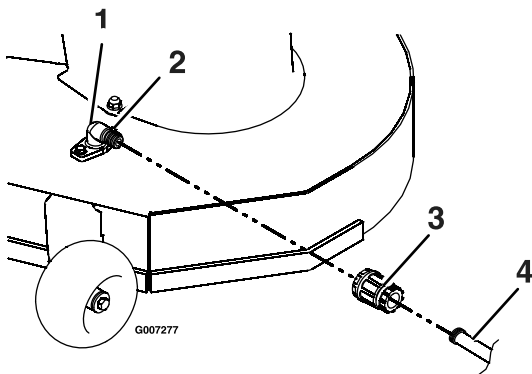

Figure 44
3. Attach the hose coupling to the end of the mower washout fitting, and turn the water on high (Figure 44).